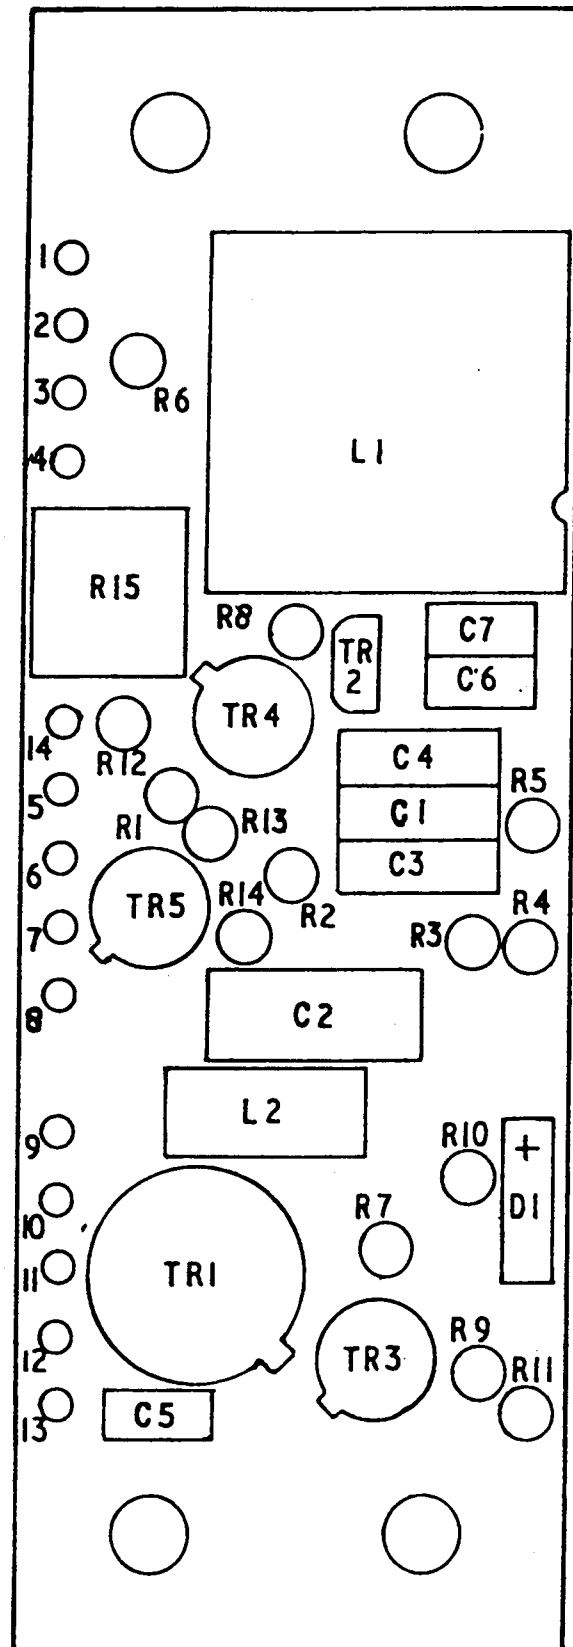

Fig.2 1kHz filter (Unit 1a) - component layout
16. The principal component parts of the 1 k Hz filter are listed below and the component layout is given on Fig.2.
7. With reference to the circuit diagram in figure 2. The power amplifiers consist of a class AB output stage (TR12/13), a class AB driver (TR6/7) and three class A pre-amplifier stages (ML2, TR2 and TR3/4).